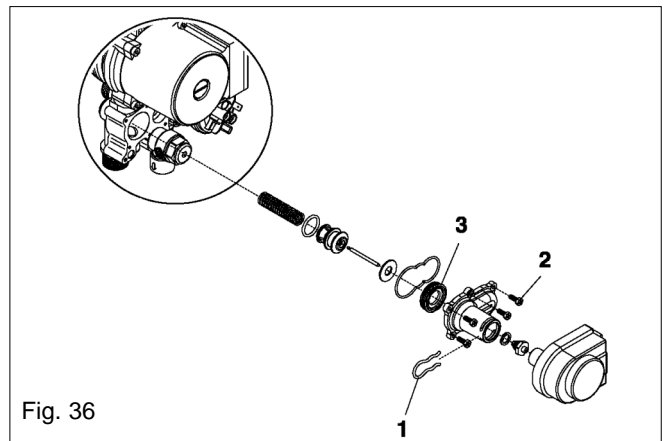

Fig. 36
6.23 DIVERTOR VALVE ASSEMBLY Fig. 36